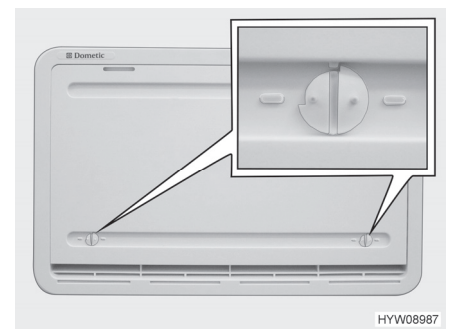

Fig. 184 Winter cover (refrigerator ventilation grill)
Winter cover The winter covers (Fig. 184) protect the cooling unit against cold air. Place winter covers in front of both refrigerator ventilation grills when the external temperature falls below +10 °C (both for gas and electrical operation). In the case of smaller appliances (capacity of less than 130 l) in gas operation, only use the **lower** winter cover. In the case of very low temperatures (-5 °C to -30 °C), use the **insulated** winter cover. Use the insulated winter cover only instead of the **lower** refrigerator ventilation grill.
- Open both locks (Fig. 184) (groove in horizontal position).